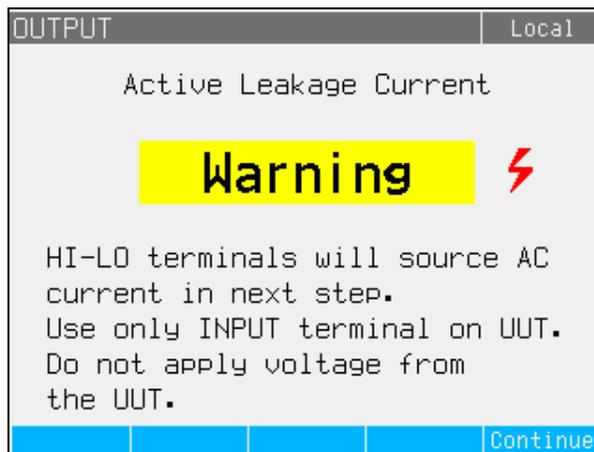

Figure 10. Active Leakage Current Warning Message
Unlike passive, substitute, and differential leakage current modes for which the Product acts as a resistance decade, the Product acts as a current source for the DUT in the active current mode. The current source can have a maximum voltage between 50 V and 100 V. Therefore, as a reminder to the user that voltage will be present at the output terminals during the calibration, the message shown in Figure 10 is shown whenever the active leakage current mode is selected.
3. Use the cursor keys or rotary knob to highlight the **Active** selection and either push the **Select** softkey or push in the rotary knob. The warning message in Figure 10 is shown.